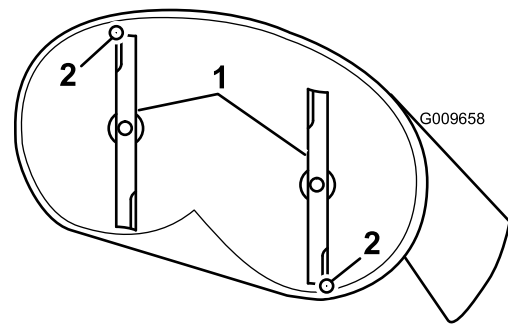

Figure 51
4. Carefully rotate the blades so they are facing front to rear (Figure 51).
5. Measure from the tip of the front blade to the flat surface and the tip of the rear blade to the flat surface (Figure 51). If the front blade tip is not 1/16-5/16 inch (1.6-7.9 mm) lower than the rear blade tip, adjust the front locknut.
8. After adjustment, check the front-to-rear slope again. Continue adjusting the nut until the front blade tip is 1/16-5/16 inch (1.6-7.9 mm) lower than the rear blade tip (Figure 51).